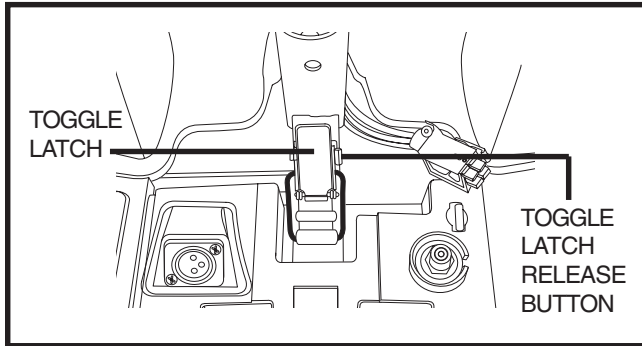

Figure 21. Toggle Latch (Latched)
1. Push in the toggle latch release button while pulling back the toggle latch. See figure 21.
5. Secure the toggle latch. See figure 21.